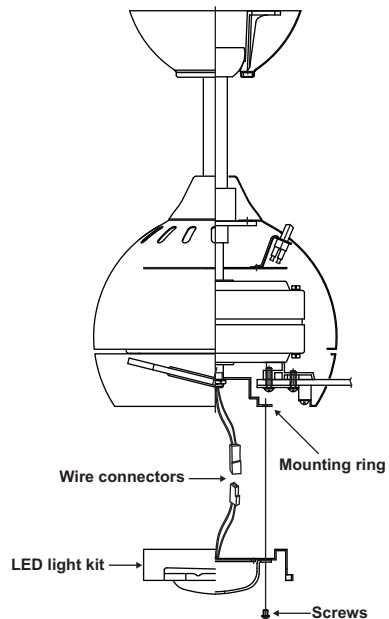

Figure 15
2. While holding the light kit under the fan motor assembly, make the 2-pin wire connections : (Fig. 15)